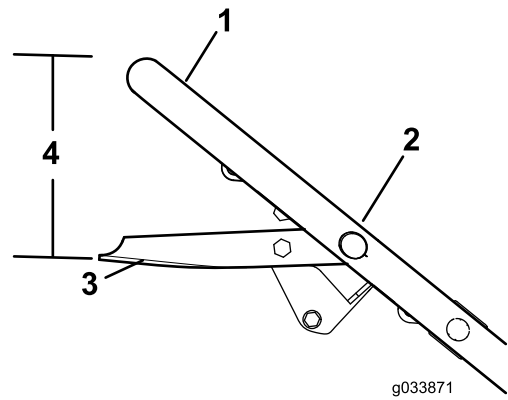

Figure 31
3. Hold the blade-control bar at 19 cm (7-5/8 inches) from the top of the handle as shown in Figure 31.